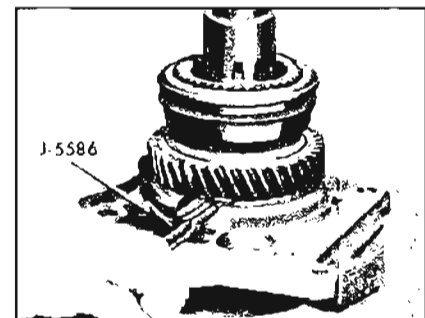

Figure 4-58—Installing Rear Bearing Retainer
11. Install the rear bearing retainer (see Figure 4-58). Spread the snap ring in the plate to allow the snap ring to drop around the rear bearing and press on the end of the mainshaft until the